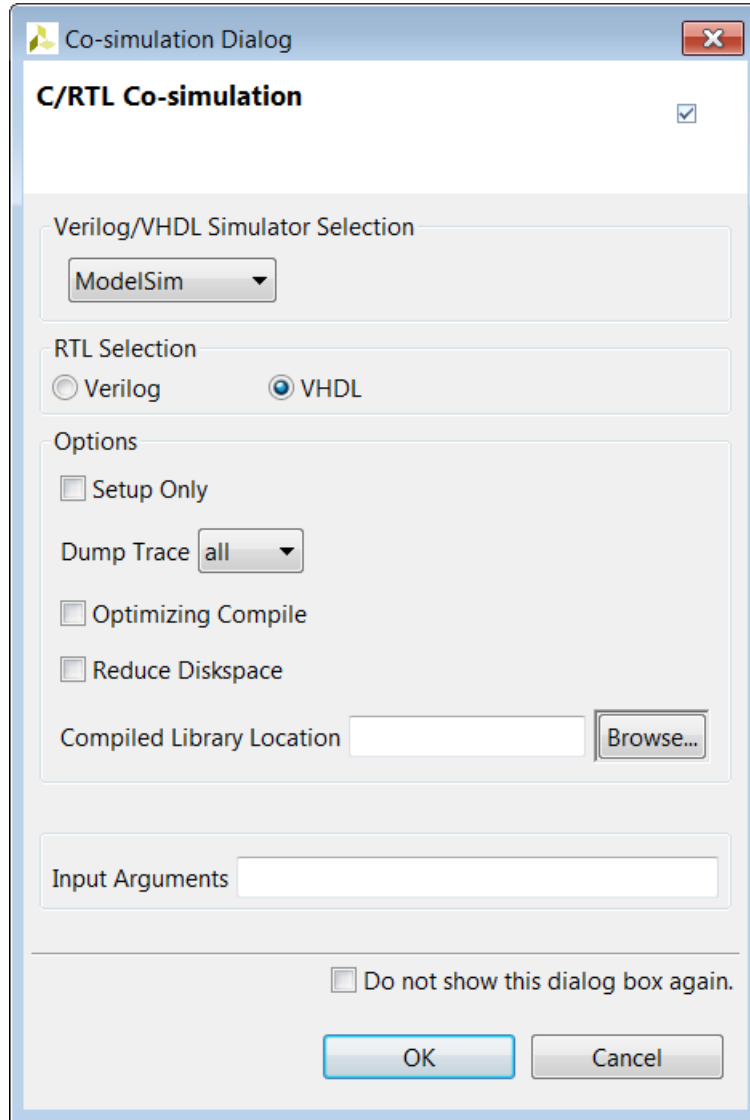

Figure 8-15: Co-simulation Dialog Box for Lab 3
- c. Activate the **Dump Trace** drop-down menu and select the **all** option, to have the options shown in Figure 8-15.